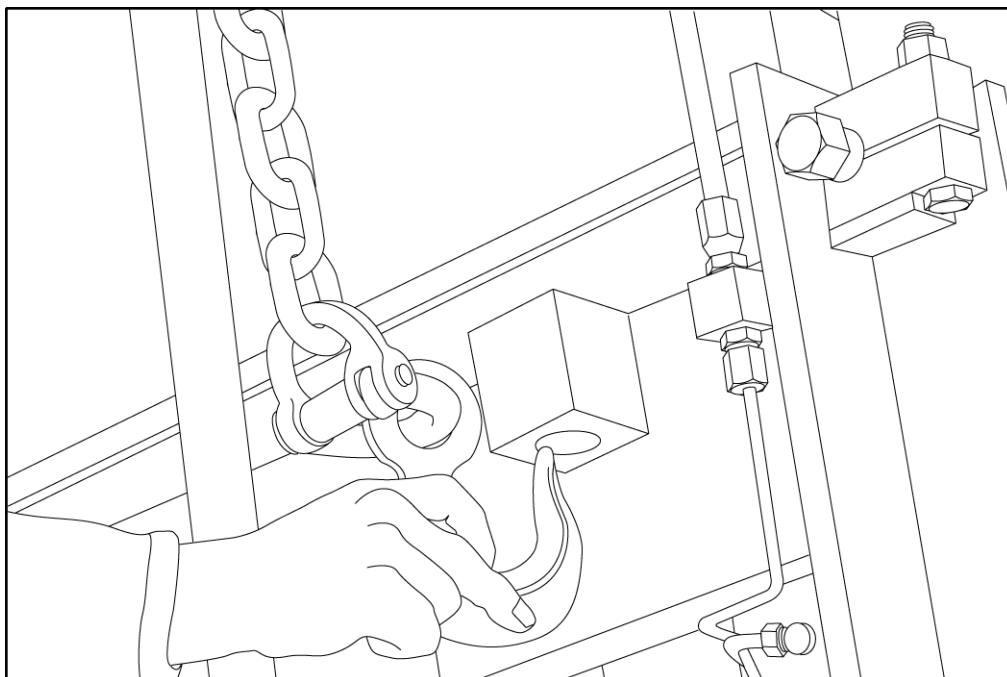

Figure 5.4 ATTACHING STRIPPER HEAD FRAME WITH SAFETY CHAIN
- 5.3.14 Jog machine to bring stripper head high enough to connect safety chain (figure 5.4).
| <p>5.3.16 Hook safety chain as shown in figure 5.4.</p> <p>5.3.17 Make sure no one is standing on or near machine and turn power back on. Hit MCR reset button. Do not start main drive motor.</p> <p>5.3.18 Jog clutch until stripper head comes down and is supported by safety chain.</p> | <p>5.3.19 Keep jogging until pallet receiver is at lowest position.</p> <p>5.3.20 Shut off clutch and turn power off. Wait until motor has stopped completely. Also, lock out machine.</p> |